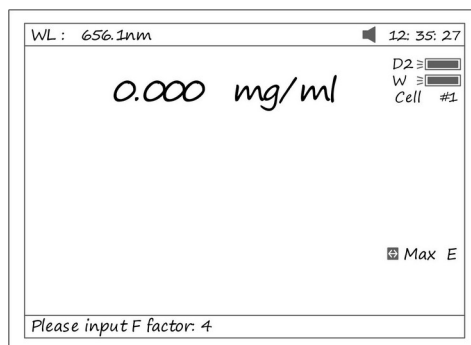

Fig 23
4.1 Press [ F3 ] to input known F value, Fig 23. Then push the sample into Main Light Path to take reading of concentration